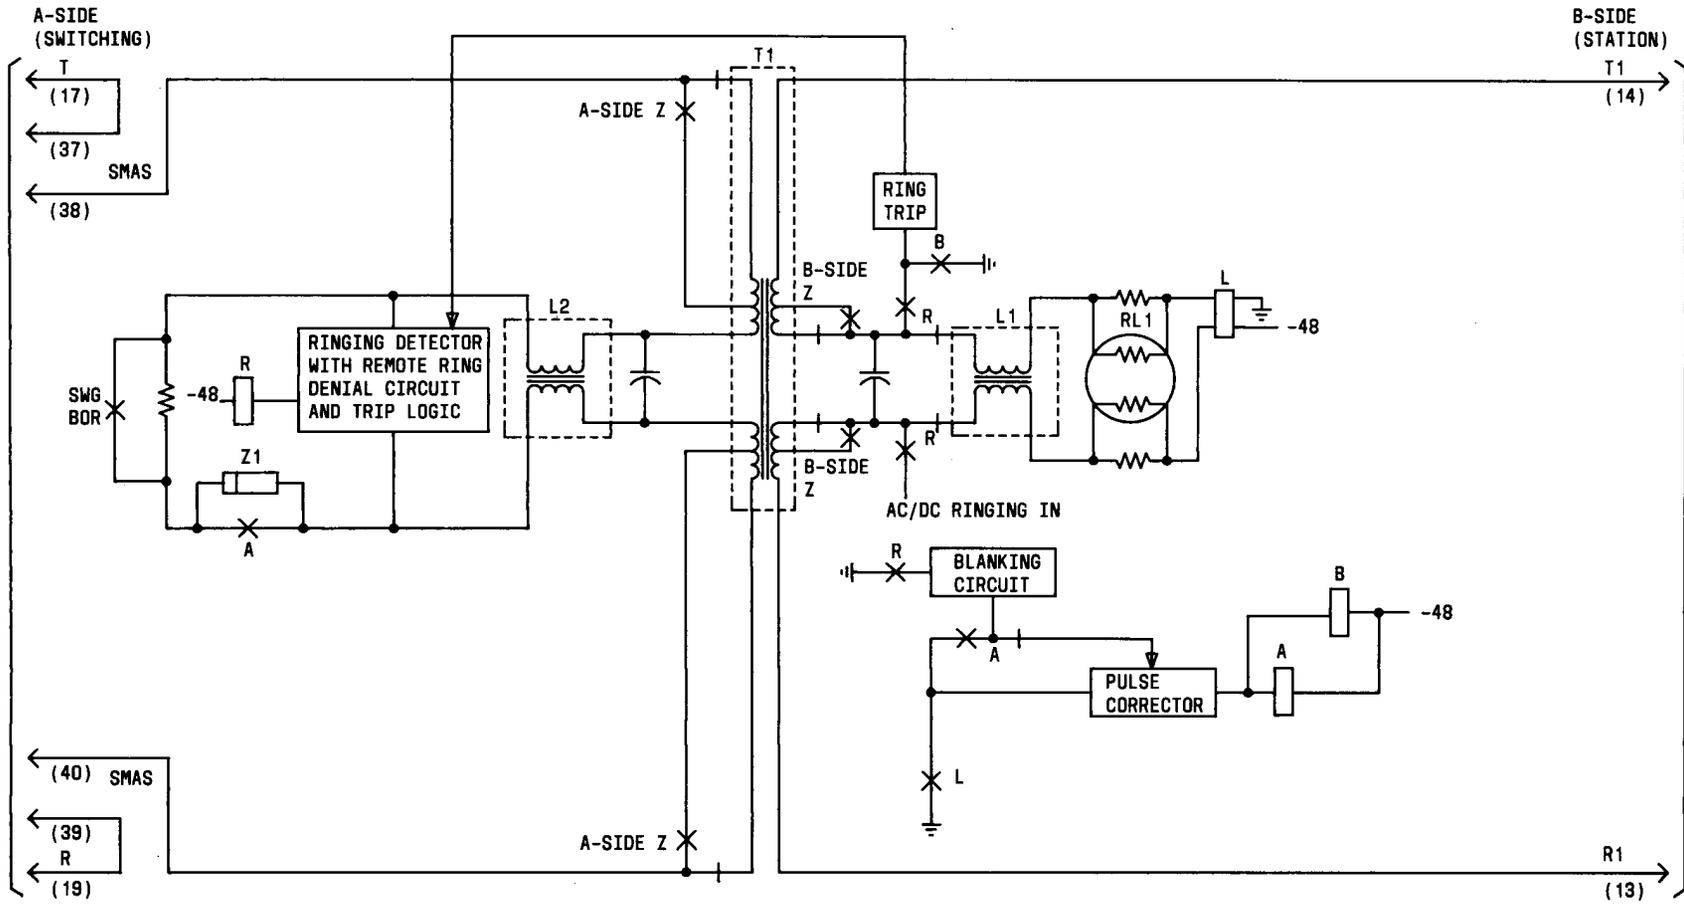

Fig. 2—LSO/2-Wire Block Diagram
3.01 The transmission portion of the LSO/2-Wire consists of a 2-wire voice-frequency coupling transformer for passing voice-frequency energy between the A-side and B-side of the unit. The transformer is tapped on both sides for 600- or 900-ohm operation and may be used in any setting arrangement (600:600, 600:900, 900:600, or 900:900). Impedance selections are made by slide switches on the component board. A block diagram of the LSO/2-Wire is shown in Fig. 2.